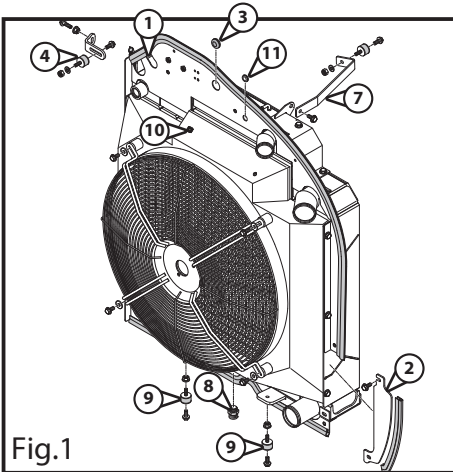

Fig.1
Disconnect the cable harnesses (Fig. 1, (Ref. 1)) and the computer.
- the upper right hand silent block (Fig. 1, (Ref. 4)) and the two lower silent blocks (Fig. 1, (Ref. 9)).
Attach the 3 silent blocs (Fig. 1, (Ref. 4) and (Ref. 9)), the tie (Fig. 1, (Ref. 7)) and the drain plug (Fig. 1, (Ref. 8)) to the radiator.
Pass a sling through the hole at the cap (grommet) location (Fig. 1, (Ref. 3)), refit the cap after installation.
Place the radiator and screw the silent blocks (Fig. 1, (Ref. 4) and (Ref. 7)).
Attach the motor fuse box, pass the 2 sensor cables underneath. Refit the cable harness grommet to the anti-recycling plate (Fig. 1, (Ref. 1)).